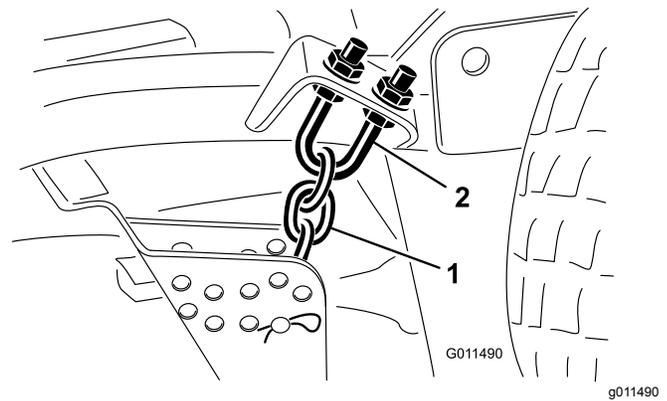

Figure 84
1. Loosen the jam nuts at the top or bottom of the height-of-cut chain U-bolt (Figure 84).